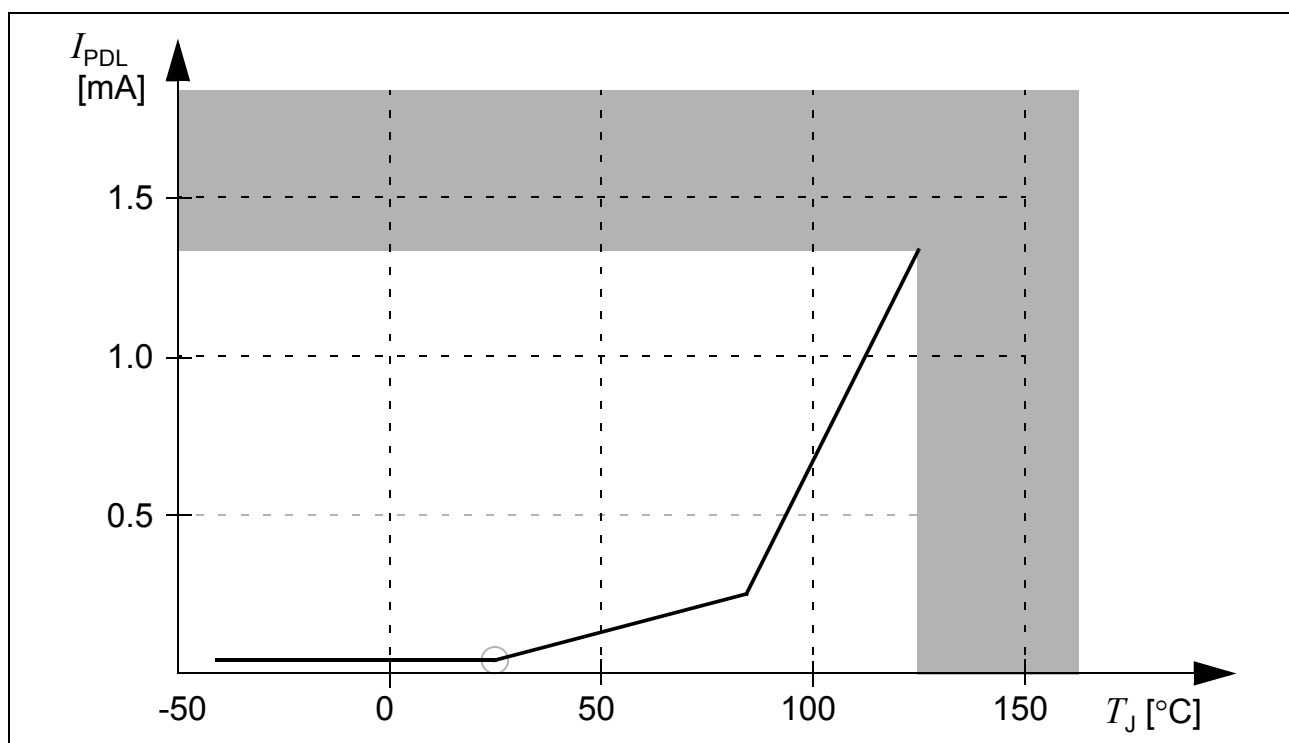

Figure 13 Sleep and Power Down Leakage Supply Current as a Function of Temperature
- 5) This parameter is determined mainly by the transistor leakage currents. This current heavily depends on the junction temperature (see **Figure 13**). The junction temperature T_J is the same as the ambient temperature T_A if no current flows through the port output drivers. Otherwise, the resulting temperature difference must be taken into account.